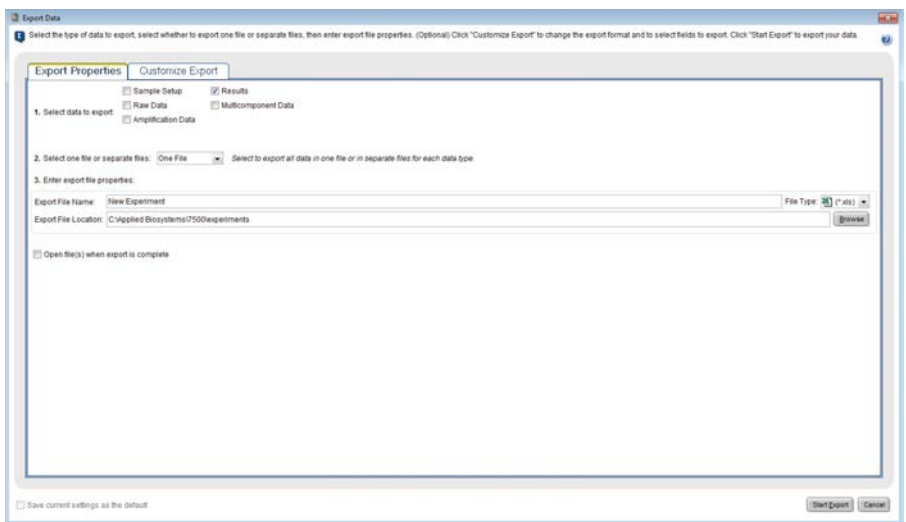

Figure 10. The Export Data window.
2. On the Export Properties tab of the Export Data window (Figure 10), select the following Export Properties: